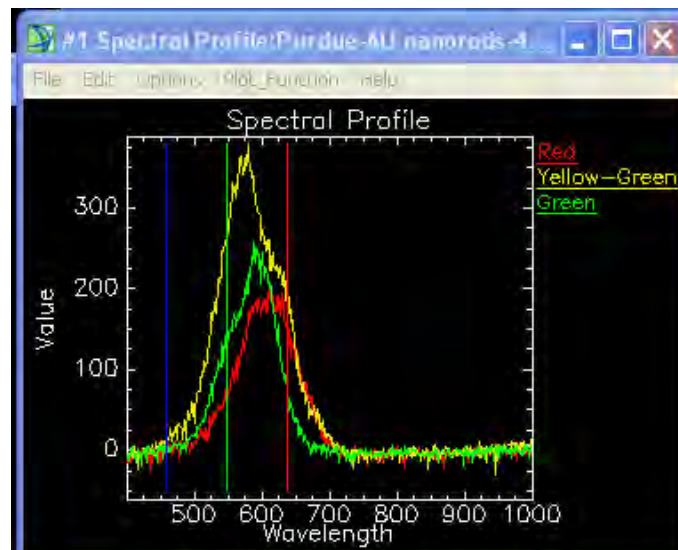

Figure 6: Spectral curves from three nanoparticles
4. You may end up with three very distinct curves (see Figure 6)